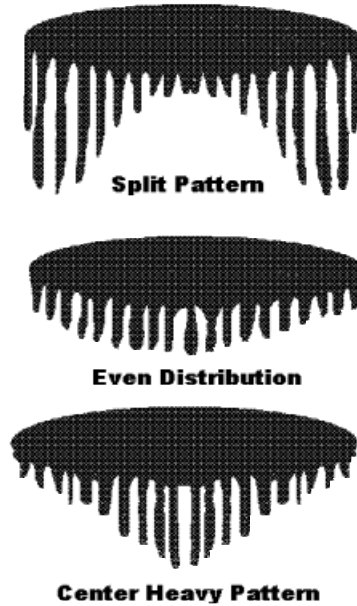

Figure 13 - Horizontal Test Pattern
(1) Spray a horizontal test pattern (air cap horns in a vertical position). Hold the trigger open until the paint begins to run. There should be relatively even distribution of the paint across the full width of the pattern. (see Figure 13). Adjust the pattern width with the spreader adjustment valve. If distribution is not even, there is a problem with either the air cap or the fluid tip that must be corrected. Refer to